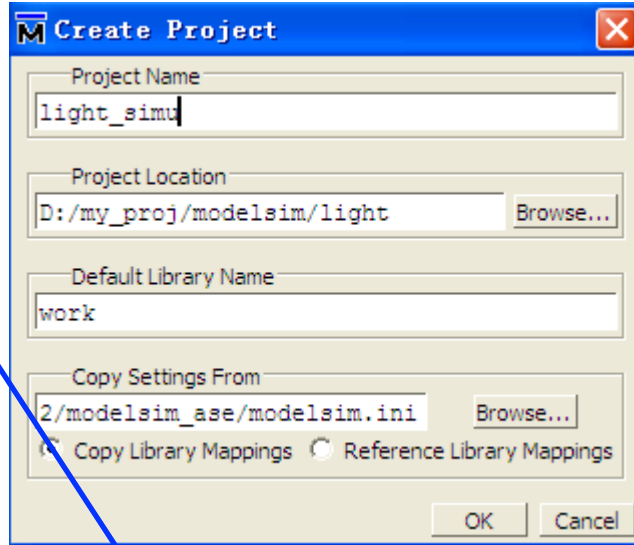

Figure 30. Create Project Window
- a. Select **File > New > Project** (Main window) from the menu bar to get the Create Project window where you can input a Project Name, Project location (directory) and Default Library Name (Figure 30). You can also refer to the library settings from a selected .ini file or add them directly into the project. The default library is located in the path of the project compilation files, and here we usually choose work (default) .